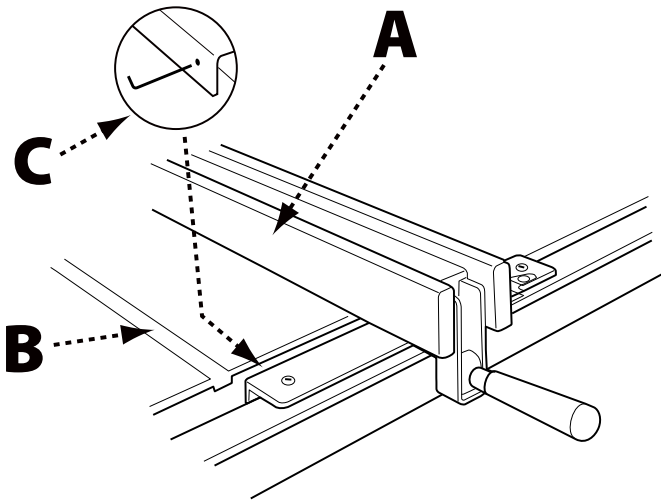

FIGURE 39
2. If the fence face (A) figure 39, is not parallel to the miter slot (B), raise the clamping lever and lift the fence and place it on the saw table.
3. Adjust the one or both of the set screws (C) 1/4 turn or less.